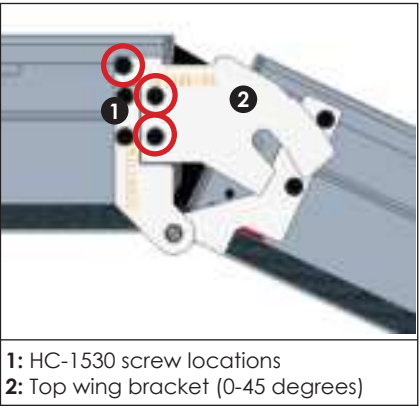

Figure 22: Set Wing Angle
7. Set the wing at the necessary angle to engage the left and right sections. Refer to **Figure 22**.